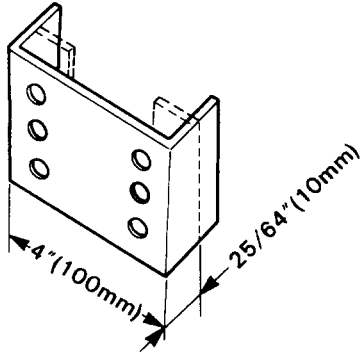

Fig. 9
- Then, bend both ends again in the manner shown in Fig. 9. The sanding paper is now ready to be installed on the sander.